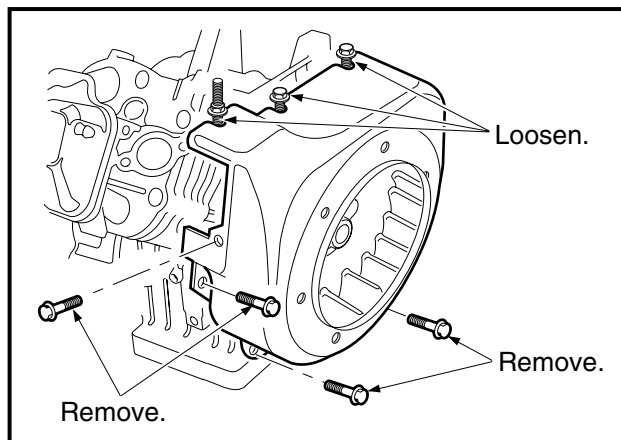

Figure 13-5 Flywheel Housing
1. Loosen three screws and remove the remaining four screws attaching the flywheel housing as shown, then remove the housing (**Figure 13-5, Page 13-6**).